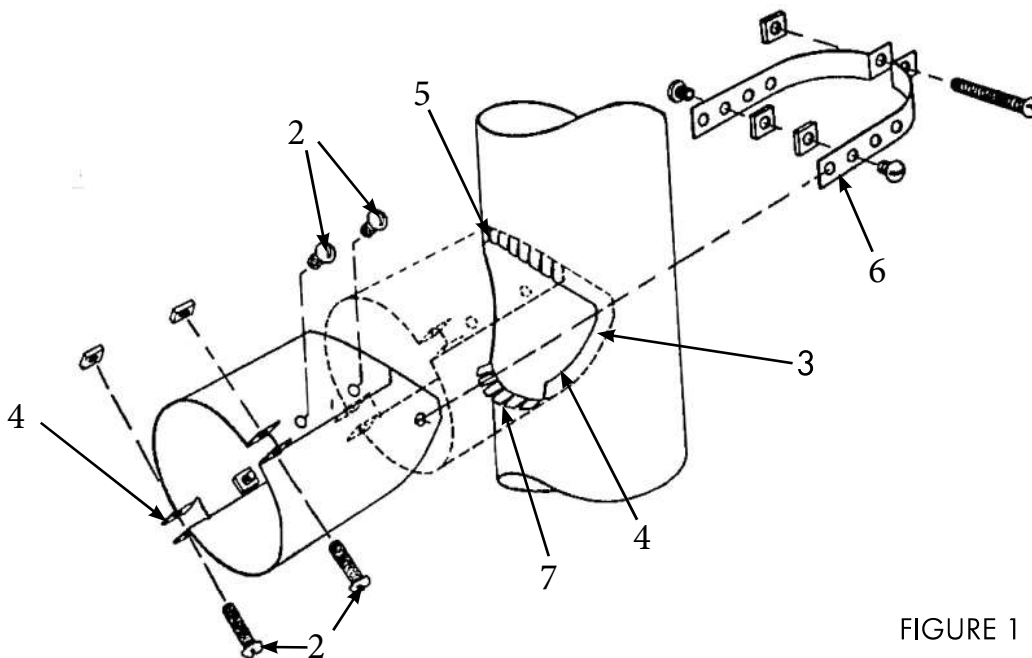

FIGURE 1
I. PATTERNED COLLAR TO ROUND BREECHING (SEE FIGURE 1)